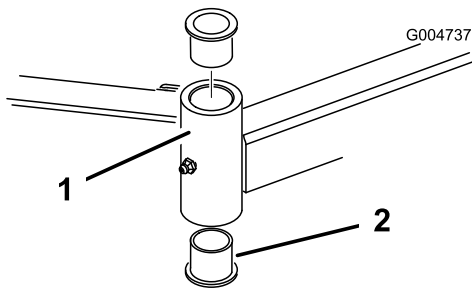

Figure 85
4. Insert a pin punch into the top or bottom of the mounting tube and drive the bushing out of the tube (Figure 85).